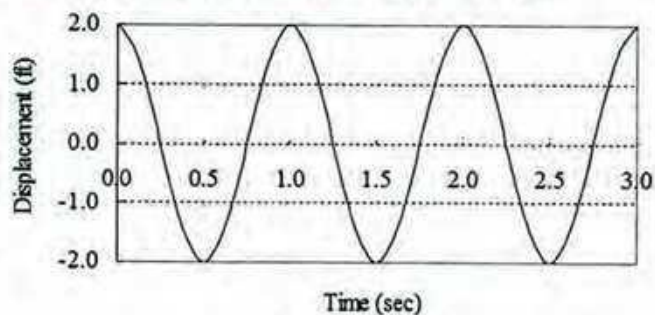

Figure 1
1. a) Define undamped, critically damped and overdamped systems. Derive equation of motion of free vibration of an underdamped SDOF system. (11)
- b) The free vibration of an undamped system is shown below in *Figure 1*. Calculate its (i) undamped natural period, (ii) undamped natural frequency in Hz and radian/second, (iii) stiffness if its mass is $2 \text{ lb-sec}^2/\text{ft}$. (9)